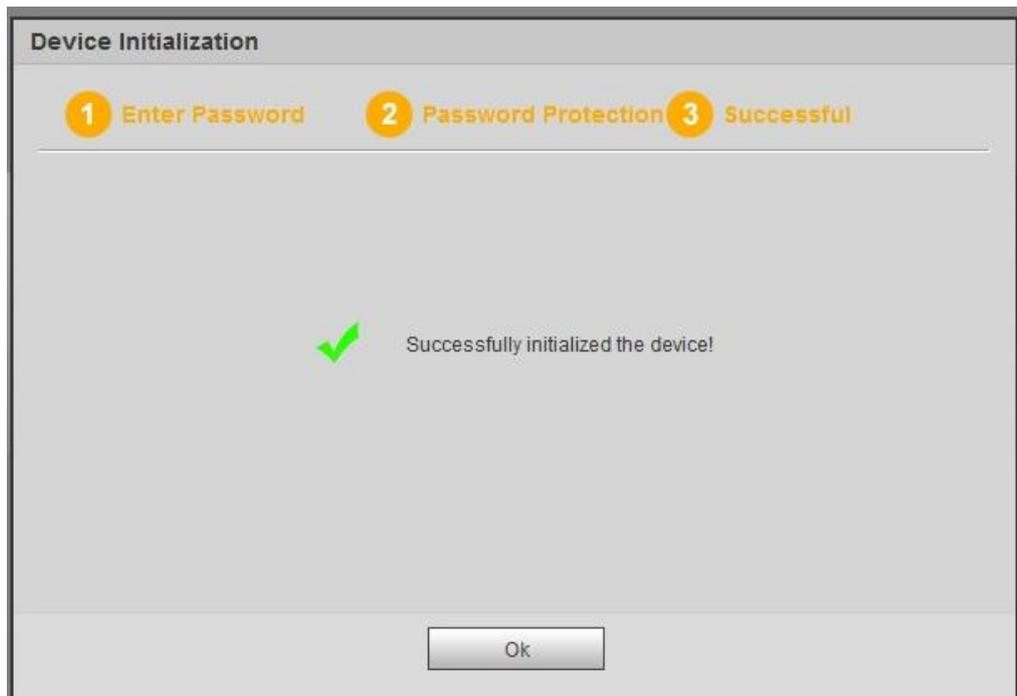

Figure 3-3
Step 6 Click OK to complete the device initialization setup. See Figure 3-3.
Step 1 Go to the device login interface. See Figure 3-3.